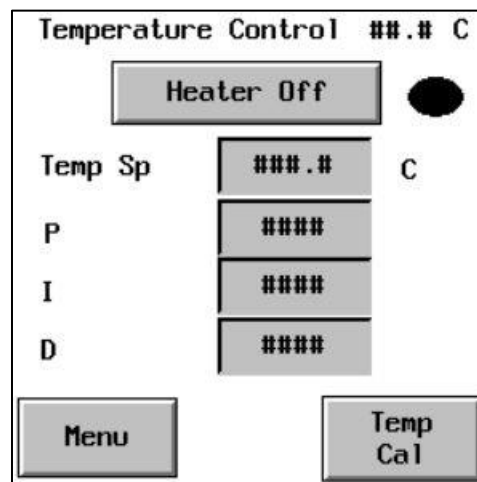

Figure 12 Temperature Control Screen
- 3.1. To set the temperature, navigate to the Temperature Control screen (shown below in Figure 12) from the Navigation Menu by pushing the Temperature Control button on the touch screen.